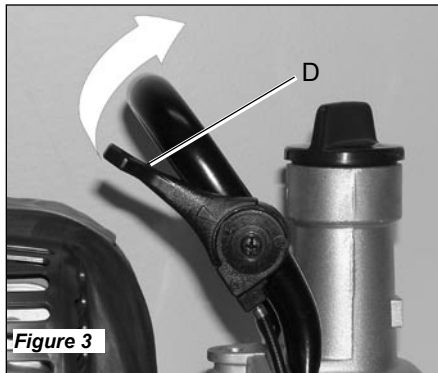

Figure 3
2. Set throttle control lever to the half open position. See Figure 3.